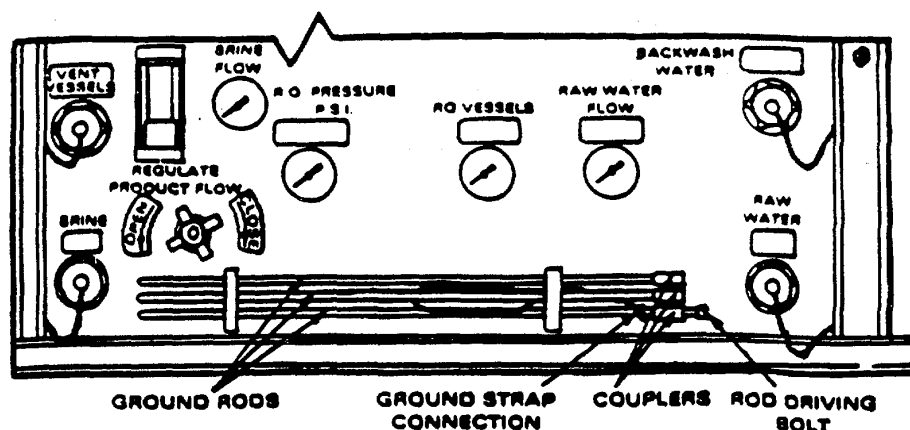

FIGURE 2-36. GROUND RODS IN STOWED POSITION
(25) Ground the ROWPU with ground rod kept on outside bottom of the control panel (figure 2-36) as follows: